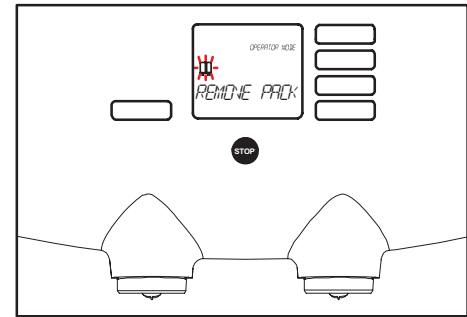

Fig. 46 Remove pack
- The display shows: "REMOVE PACK" +  (fig. 46).